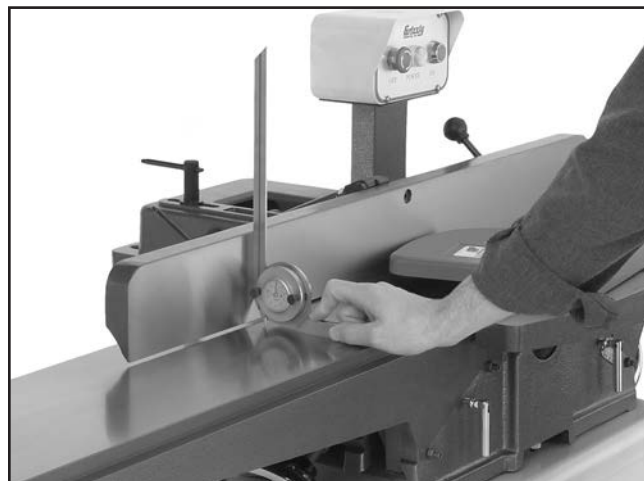

Figure 70. Example of adjusting fence to 90°.
1. Use a 90° square to adjust fence to 90° (see **Figure 70**).